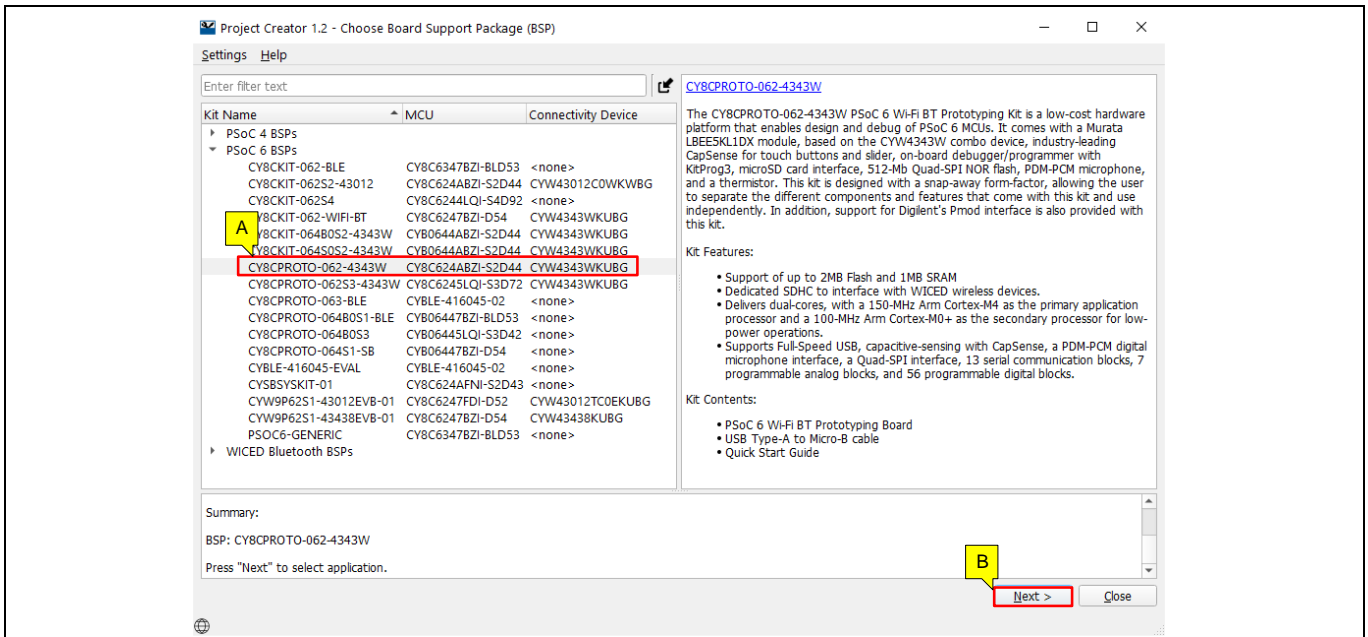

Figure 8 Choose target hardware
- In the **Choose Board Support Package (BSP)** dialog, choose the **Kit Name** that you have. The steps that follow use **CY8CPROTO-062-4343W**. See **Figure 8** for help with this step.